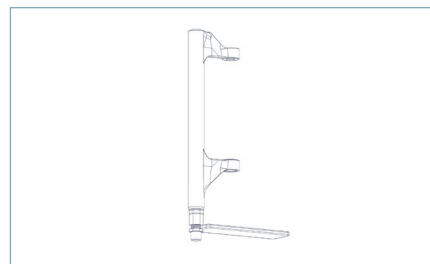

FIG 6A
- ▶ **6.1.** Remove the bottom carriage and fork assembly from its packaging, and using a 4mm frame packer, check the ride height is set correctly as shown in FIG 6A.